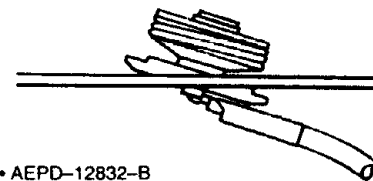

Figure 5. Bushing Assembly Insertion
5. Refer to Figure 5. The bushing assembly is now in a position to drop into the hole in the roof. It should be tilted at a slight angle and fed into the 3/4-inch hold. The threaded top will not fall through the hole.